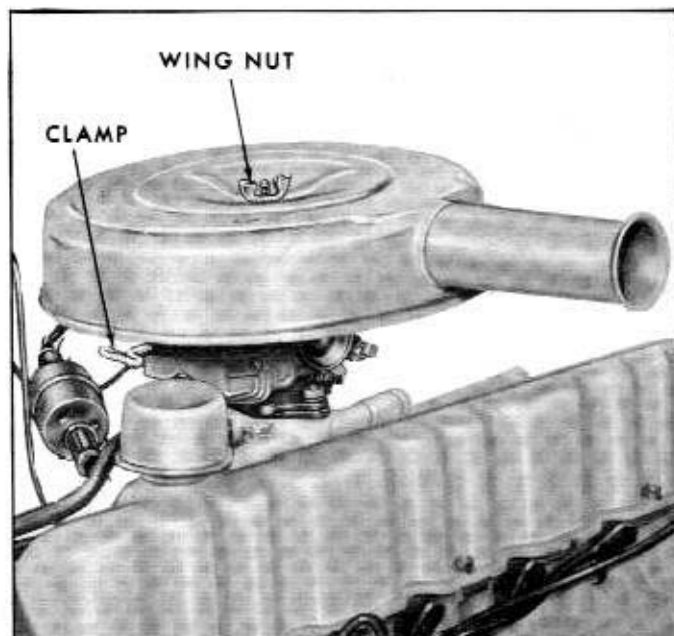

Fig. 8A-4—Air Cleaner Installation—(61CM-6804)
tab in the air cleaner body are designed in a manner which will assure proper installation positioning of the air cleaner on the mounting flange of the carburetor. This is necessary in order to maintain proper surrounding clearances. See figure 8A-3. It is of utmost importance, when installing the air cleaner on the carburetor, that the locating notch and mating tab be engaged. Rotate
the air cleaner assembly either way until engagement is felt before securing the two parts together. It is also important that the air cleaner cover gasket be properly positioned on the air cleaner lower mounting surface for proper air cleaner operation. Refer to figure 8A-3.
1. Position the air cleaner body on the carburetor. Be sure the locating notch and the mating tab is engaged. The top cover should be positioned with the marking "Front" toward the front of the vehicle and the air horn directed to the left side of the engine. Tighten the clamp by rotating the eyebolt. See figure 8A-4. The eyebolt is located directly behind the oil filler cap when the air cleaner body is correctly positioned on the carburetor.